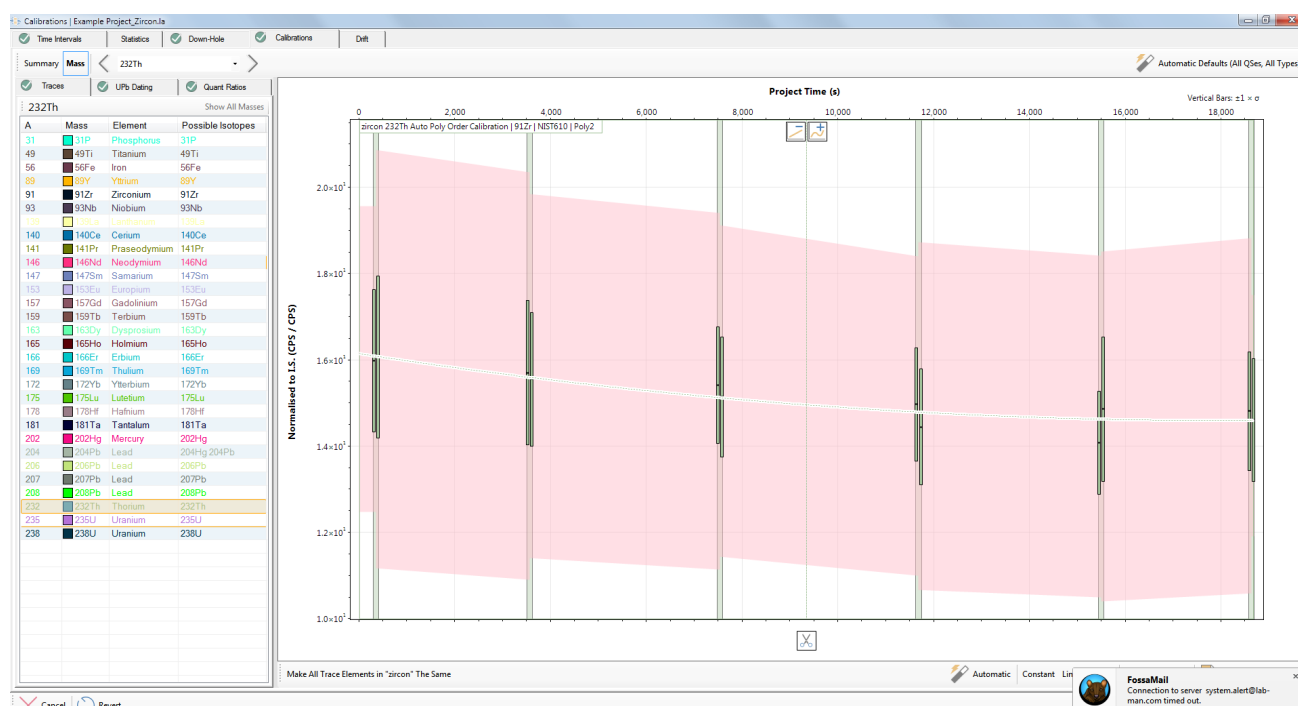

Figure 69 Calibration curve displayed for a single mass (232Th/91Zr on NIST610).
Each mass in the Project can be viewed separately by selecting the “mass” button (Figure 69) to show the “drift”, or the time dependent change in the mass (i.e. 24Mg) to internal standard element ratio in the RM for the whole Project. ICP-MS instruments can change sensitivity over an analytical session and this change in sensitivity is not the same for all masses. Since there is typically one internal standard element (often of light mass), if there is a change in the relative sensitivities of the light to heavy masses in the ICP-MS, a “drift” correction needs to be applied. This highlights the importance of analysing RMs regularly in a Project so that any “drift” in the ICP-MS can be accurately estimated. Review each mass in each QS in the Project to check the automatic “drift” fitting equations created by LADR.
- If steps 1 or 2 do not resolve any anomalous standard values, users may left-click on the standard on the graph in Figure 69 to remove that standard from the generation of a calibration drift curve.